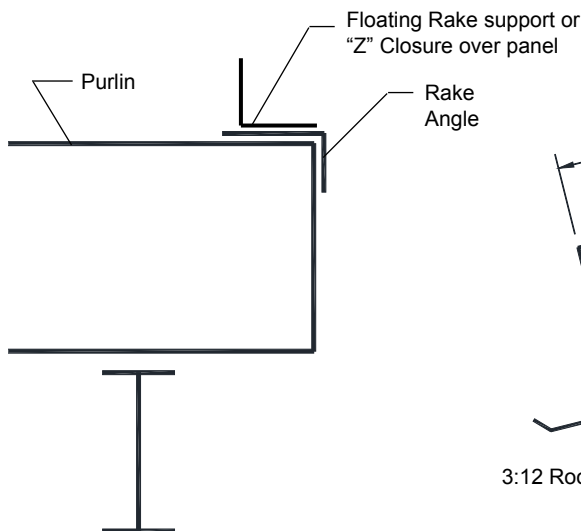

Figure 1
2. Make sure a Rake Angle has been installed on top of the purlins to accept the Floating Rake Support or "Z" Closure over panel at the rake. See figure 1.